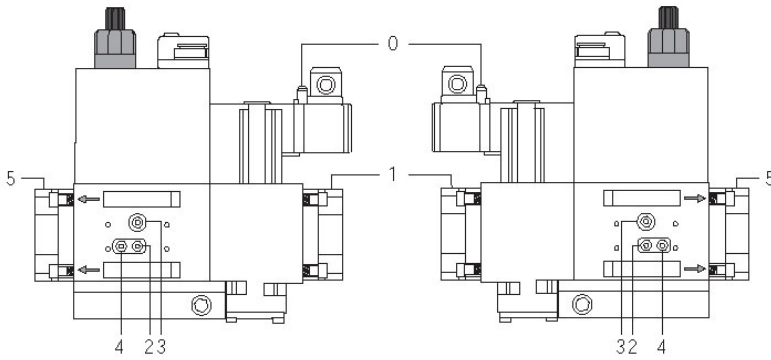
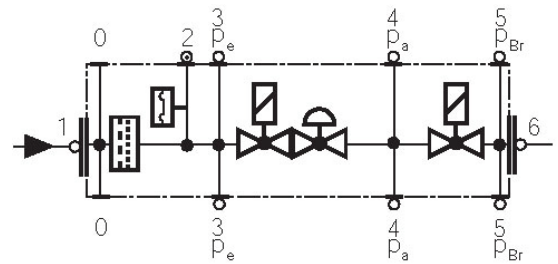

Fig. 43
Fig. 44
- Change the filter if the pressure difference between pressure connection 1 and 2 (Fig. 43-Fig. 44)  $\Delta p > 10$  mbar.
- Change the filter if the pressure difference between pressure connection 1 and 2 (Fig. 43-Fig. 44) is twice as high compared to the last check.